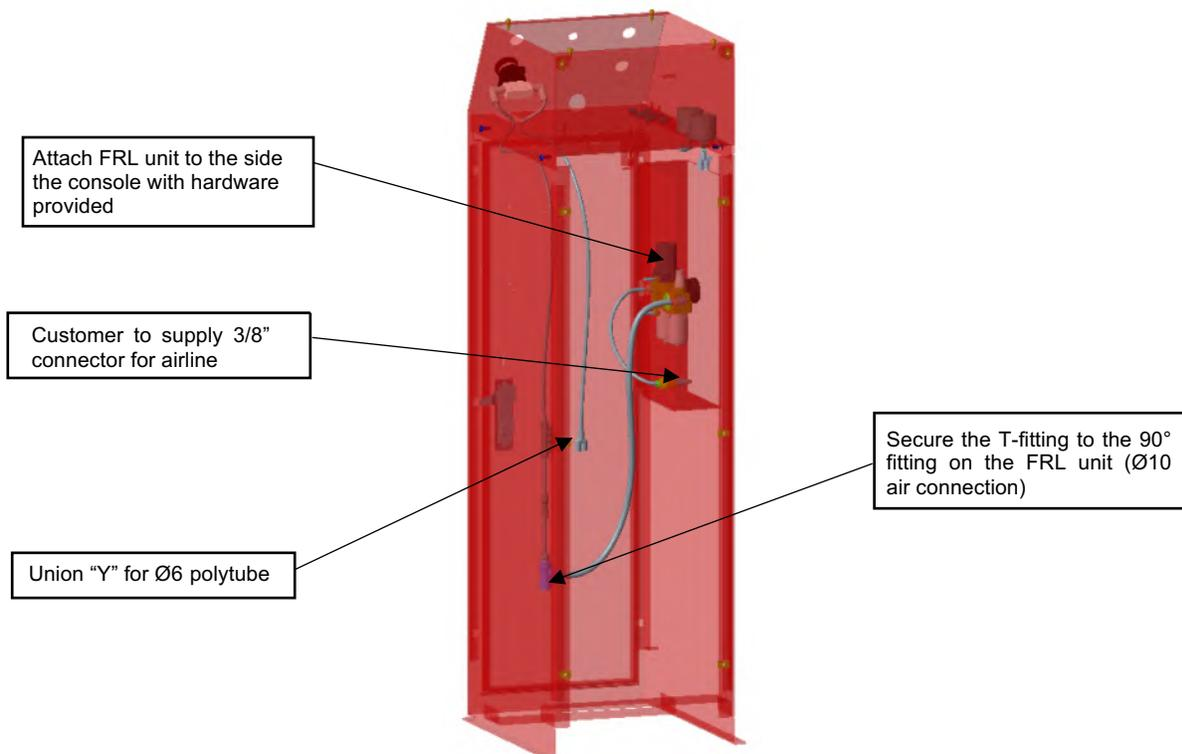
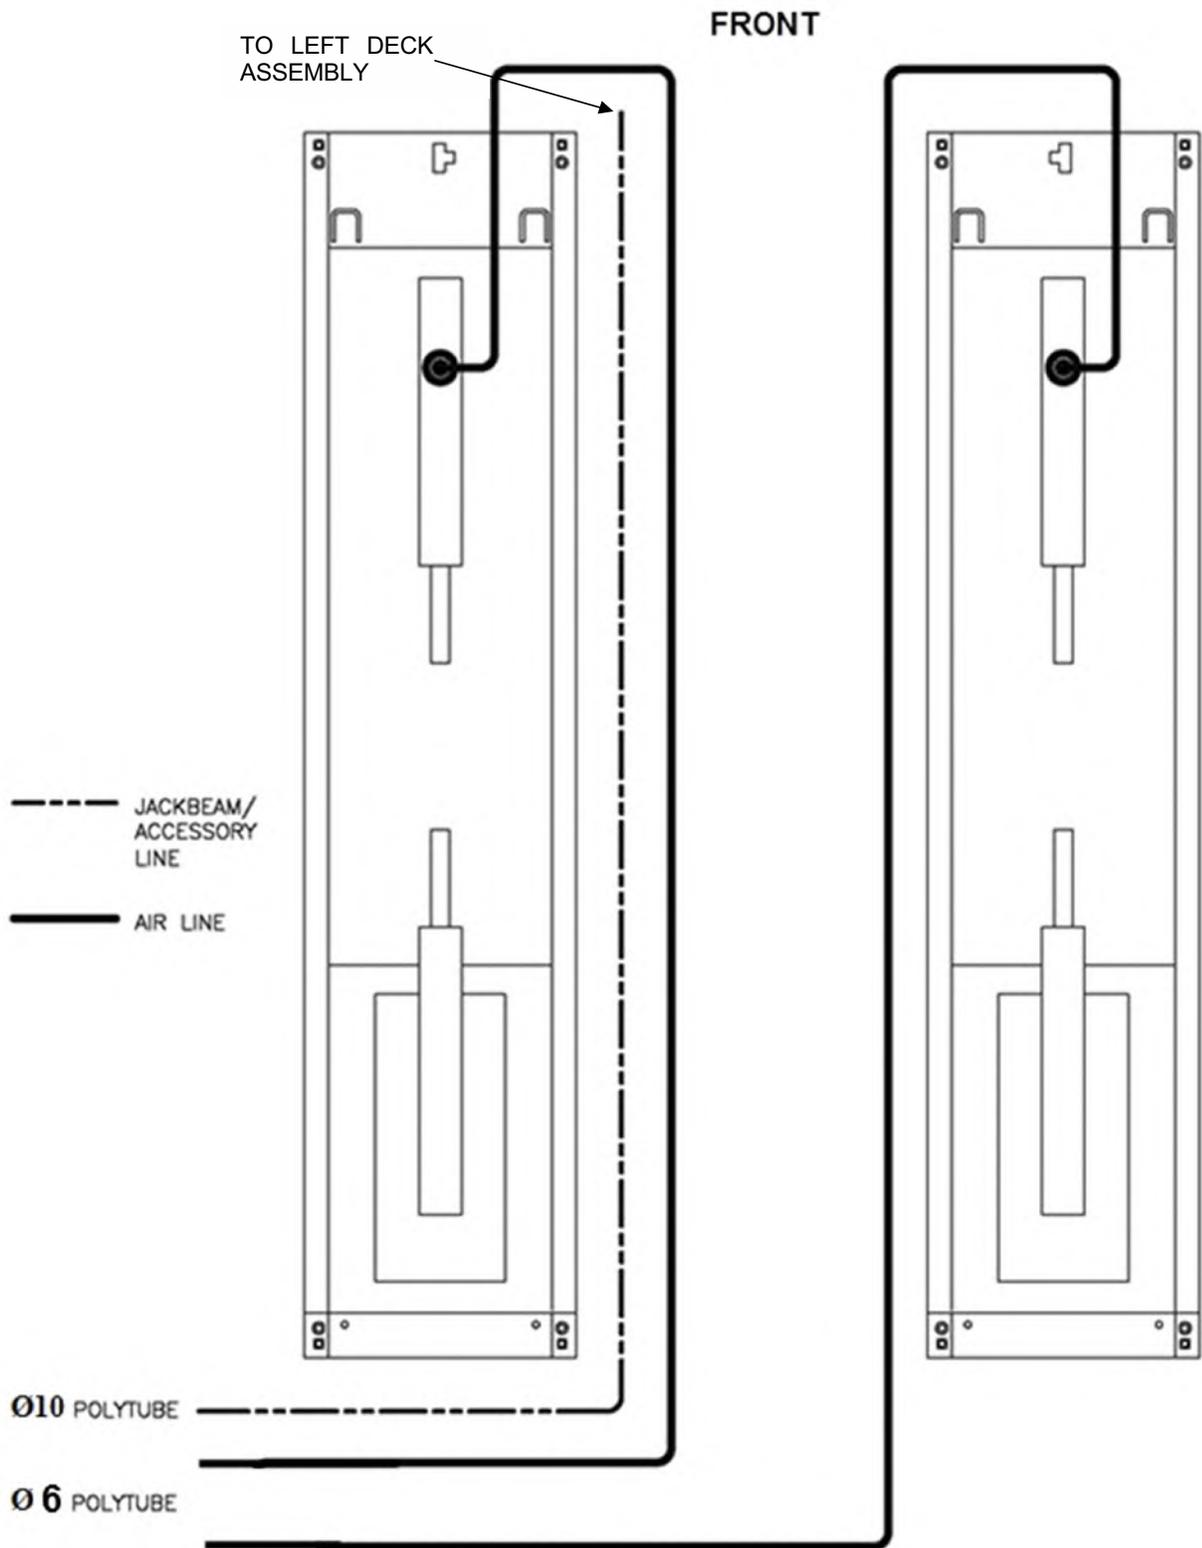

Figure 9 - Air Safety & Auxiliary Air Connections
Figure 11 - Air Safety & Auxiliary Air Connections
1. Uncoil the  $\varnothing 6$ mm polytube from each base frame that is connected to the air release cylinder. Route this line to the 'Y' connector in the console. (Figure 9, Figure 11)
2. The  $\varnothing 10$ mm polytube for the auxiliary air connections is coiled from left side base frame. Route this hose to the console and connect it to the T- fitting inside the console. (Figure 9, Figure 11)